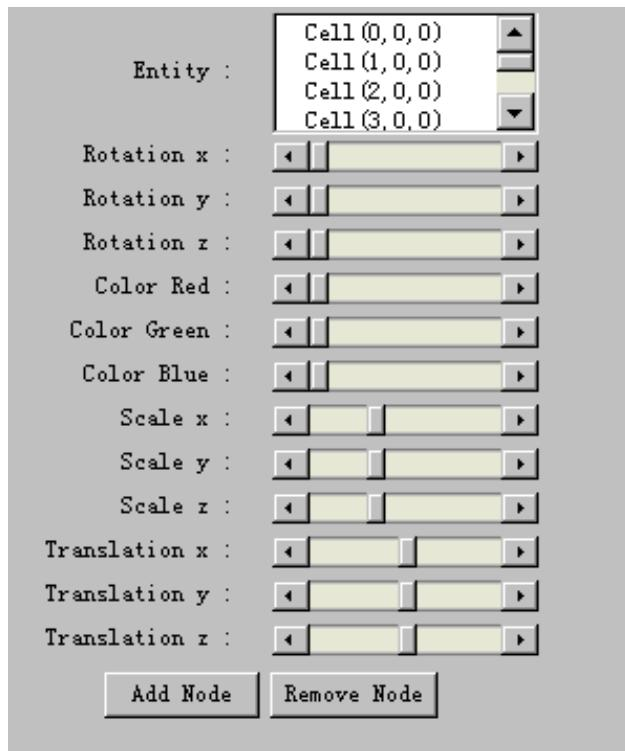

Figure 375: The Entity Panel
- **Rotate the selected node**, use three sliders “Rotation x”, “Rotation y” and “Rotation z” to rotate the selected node, as in Figure 375.
- **Change the color**, use three sliders “Color Red”, “Color Green” and “Color Blue” to change the color of the selected node, as in Figure 375.
- **Scale the selected Node**, use three sliders “Scale x”, “Scale y” and “Scale z” to change the size of the selected node, as in Figure 375.
- **Remove or Display the selected node**, click “Remove Node” button, or “Add Node” button to remove the selected node, or display the removed node, as in Figure 375.